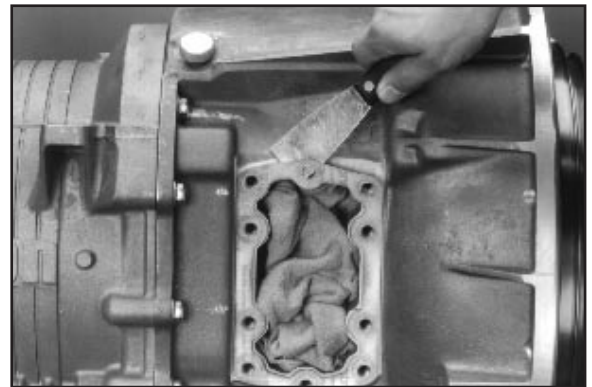

Fig. 3
3. Remove the gasket and clean the aperture surface (**Fig. 3**).